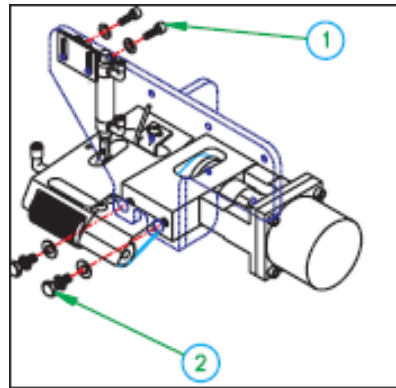

Fig 2
Actuate the manual puller lift and set the puller so that there is 1/2" clearance between the puller roller and the chaining plate. This adjustment is made by loosening the two socket cap screws in (Fig. 2, item 1) and positioning it so that the proper clearance is obtained.
Adjust the puller, with the air pressure off, so that the puller is level and flat on the chaining plate. This adjustment is made by loosening the two mounting screws located on the front of the main assembly. Take note as you torque down the screws, the puller will sometimes move as proper torque is acquired. Recheck clearance between the puller and the puller chaining plate after tightening the screws. Loosen the two 5/16-18 hex cap bolts (Fig. 2, item 2,) that secure the puller to the
1. Ajuste de la Altura; Active el levantador manual del tirador y fíjelo para que halla 1/2" de espacio libre entre el rodillo del tirador y la plancha de encadenado. Este ajuste se hace aflojando los dos tornillos con cabeza Allen (Fig. 2, artículo 1) colocándolo para conseguir el espacio correcto.